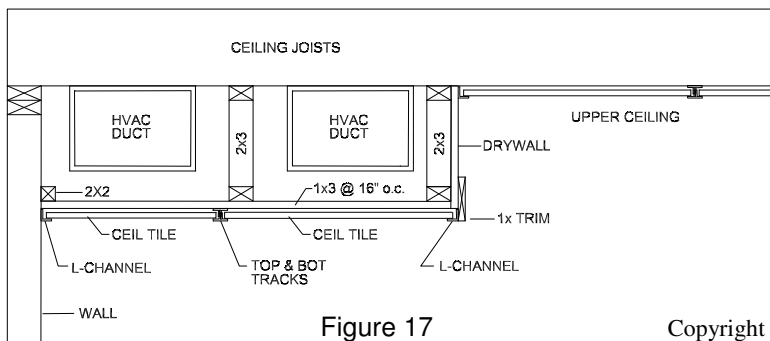
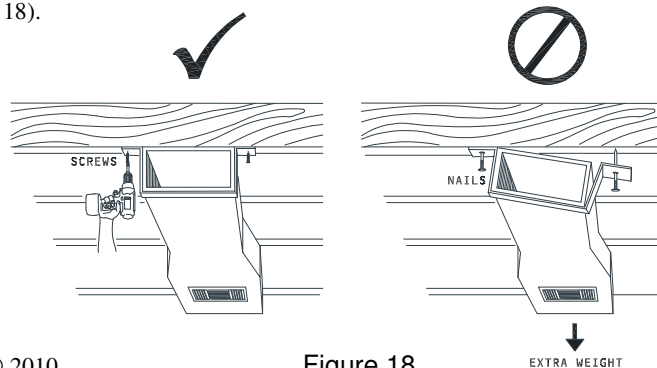

Figure 17
Figure 18
**Don't forget the common sense advice to measure twice and cut once.** Ductwork and other utilities are usually covered with soffits (drywall box-abouts). You can get below some utilities by installing 1x2 or 2x2 furring to existing joists or beams and attaching CeilingLink to the furring. Although CeilingLink is not designed to make soffits, a few of our more creative customers have done this (Fig 17). If you are planning to attach CeilingLink or L-Channel directly to ductwork (using self-tapping sheet metal screws, for example), we recommend that the support system for the ductwork be secured using drywall screws if it is currently secured with nails (Fig 18).